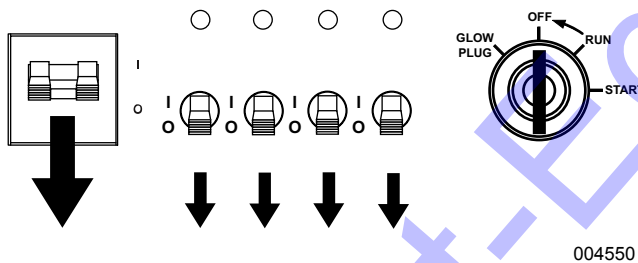

Figure 3-10. Shutting down the Unit
2. See Figure 3-10. Switch the individual circuit breakers for each light OFF (O).
3. Switch the main circuit breaker OFF (O).